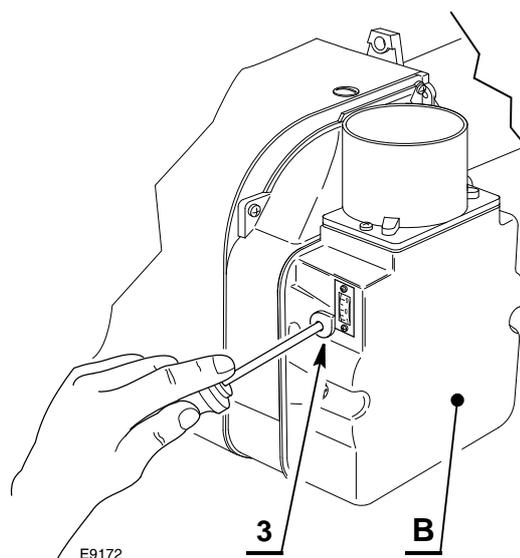

Fig. 21
The air setting is performed by mean of two independent dampers (see Fig. 20 and Fig. 21).
- Remove the secondary air damper (B) loosening the screws (1).
- Loosen the screw (2) and rotate the main air damper (A) to the required position.
- Retighten the screw (2) and put back the secondary air damper (B).
Secondary air damper (B) - Fig. 21